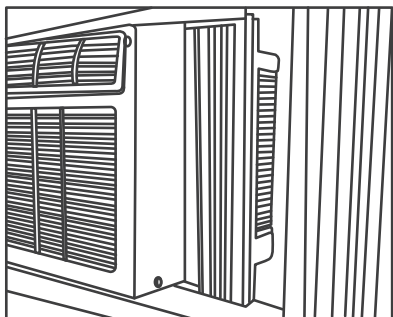

Fig.5
- 2 Keep a firm grip on the air conditioner, carefully place the unit into the window opening so the bottom of the air conditioner frame is against the window sill (Fig.5). Carefully close the window behind the top rail of the unit. (**Suggest to keep a downward oblique, to let accumulated rain water to drain out, from back side of the unit bottom.**)